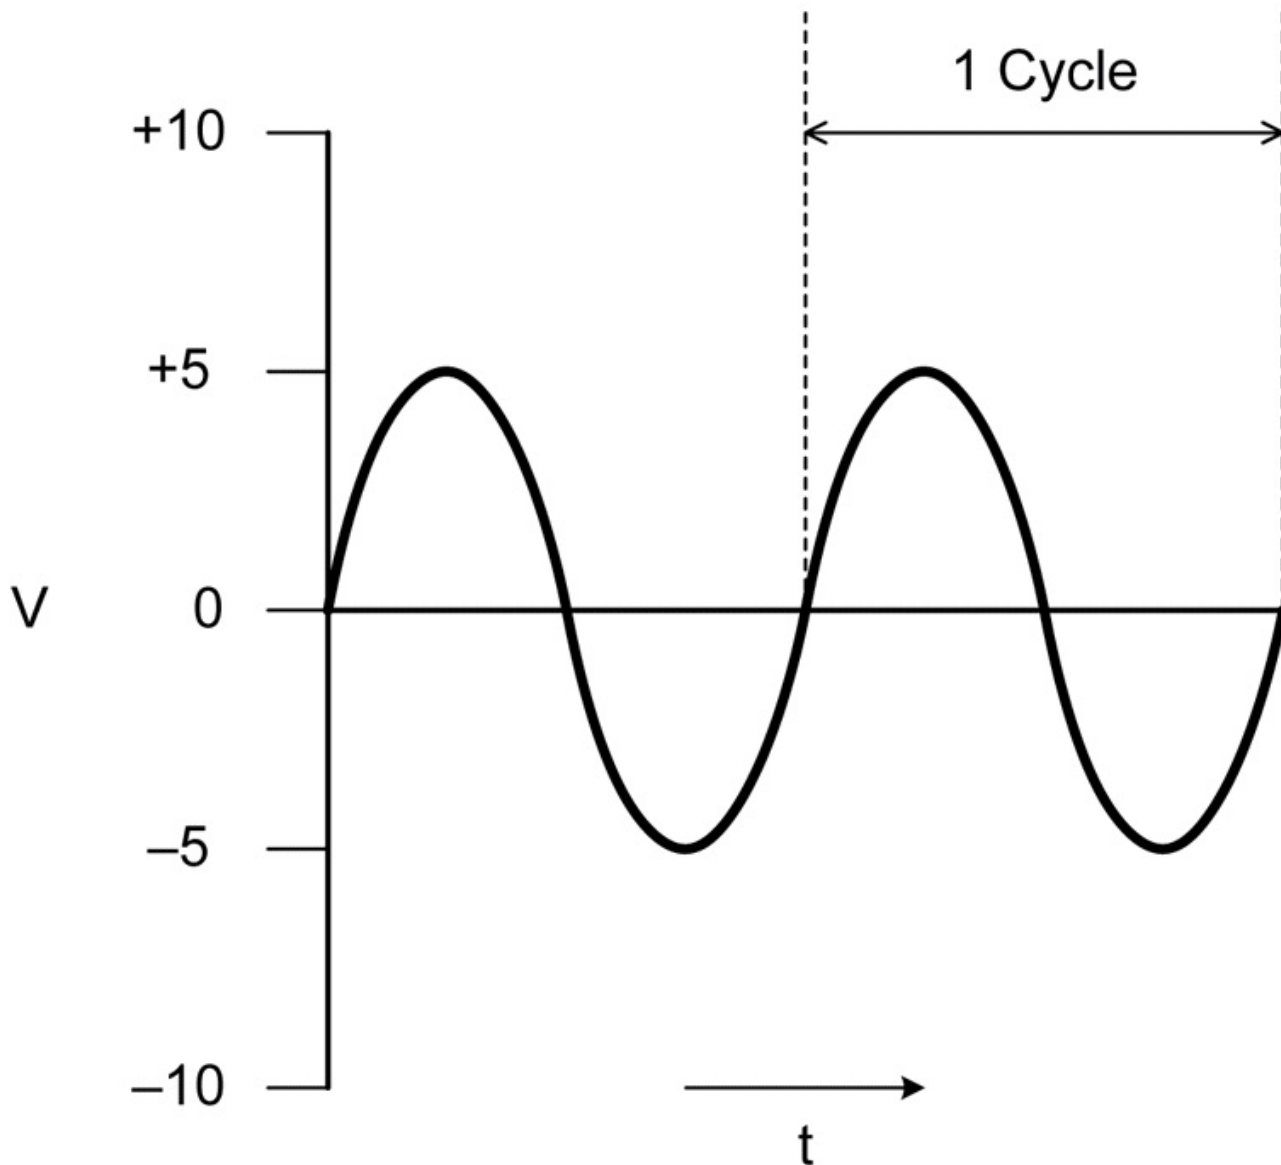

Figure A-14. AC voltage over time, a sine wave
Alternating current (AC), as the name implies, is a type of current flow that changes direction periodically. This is what makes it useful for power transmission, audio signals, and radio, but it also makes it more complicated. Whereas DC has only voltage as its primary characteristic, AC also has frequency, measured in hertz (Hz) or cycles per second, and phase, measured in degrees. In a sinusoidal waveform, such as the one shown in Figure A-14, a cycle is a complete waveform of 0 to 360 degrees, start to finish. AC also has a root mean square (RMS) value used to calculate power.
In most cases, the term *AC* refers to a sinusoidal waveform, as found with the mains current in many countries and shown in Figure A-14. Although you might think of something like the output of a signal generator producing a sine wave at, say, 1,000 Hz, as AC, that is more often referred to as a *signal*. The term *AC* is typically reserved for discussing power circuits, not signals, although they are the same thing and the fundamental concepts of AC circuits apply to both.
Alternating current has several unique primary features. As shown in Figure A-14, AC varies with time in a repeating cyclic fashion, the rate of which is its frequency. Frequency is the measure of the number of times the signal effectively changes direction in 1 second of time. Each time the voltage drops to zero, it is said to have reached a *zero-crossing point*.